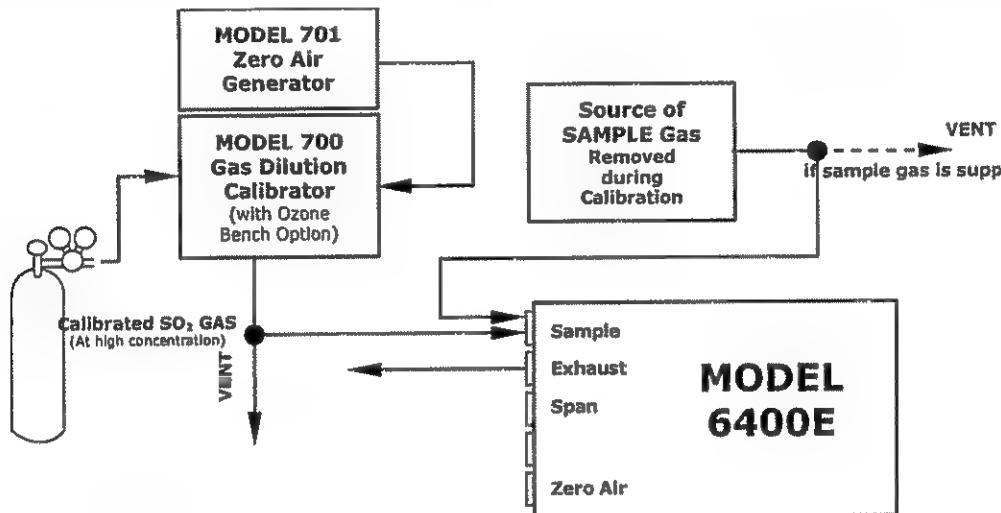

Figure 3-6: Pneumatic Connections—Basic Configuration—Using Gas Dilution Calibrator
3. Attach zero air and span gas supply lines as appropriate (see Figures 3-6, 3-7 & 3.8). For this type of analyzer, zero air and span gas are defined in Section 3.1.2.1.